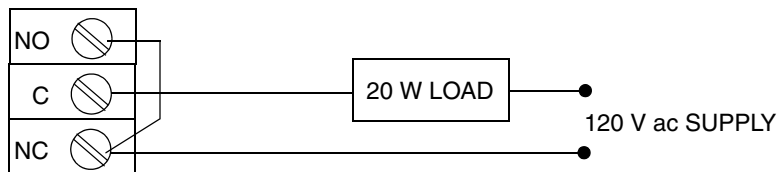

Figure 28. Alarm Contact Reconditioning Circuit
2. Connect a load of 20 W or more as shown in Figure 28 so that both NO and NC contacts are exercised.